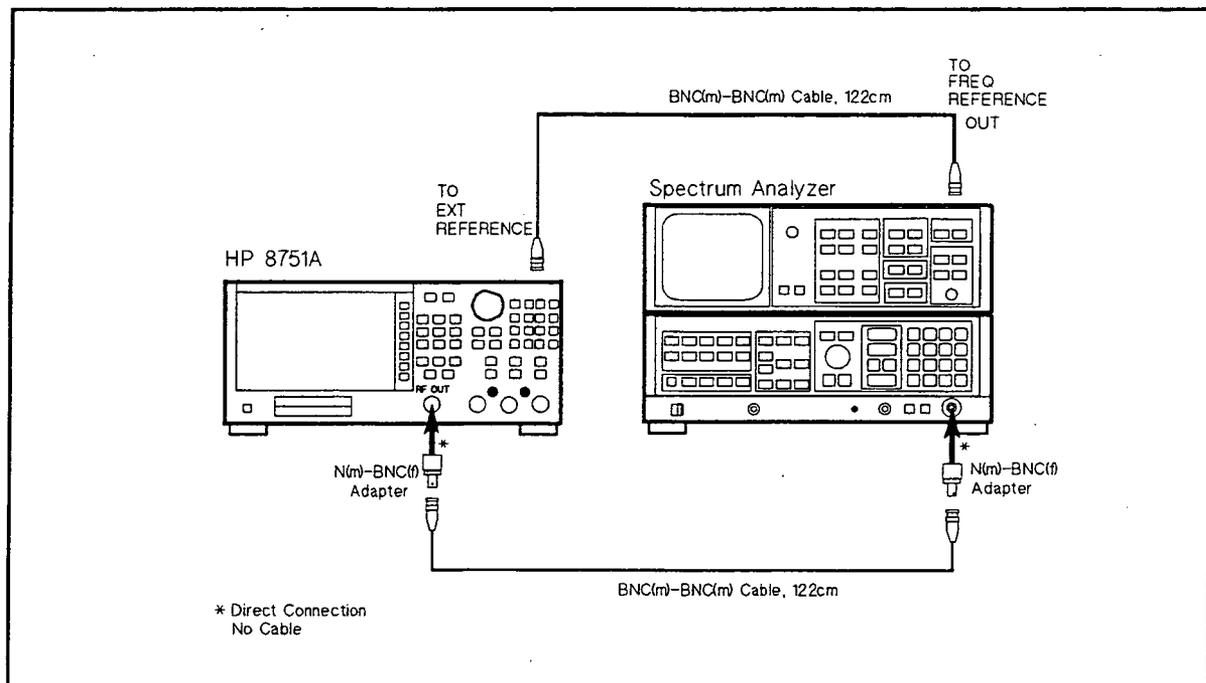

Figure 2-4. Phase Noise Test Setup
1. Set up the test configuration as shown in Figure 2-4.